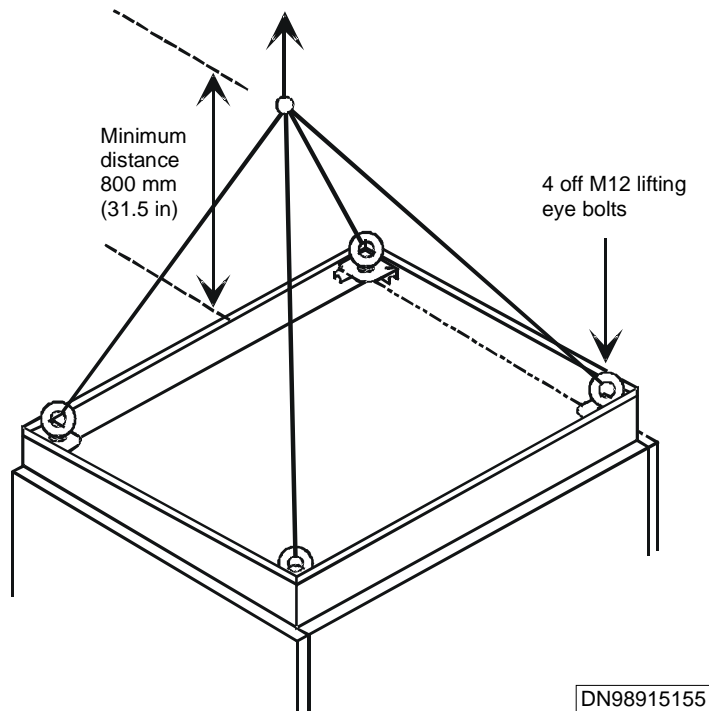

Figure 15 Lifting the cabinet using lifting eyebolts
2. Attach the lifting lines to the lifting eyebolts according to Figure 15.